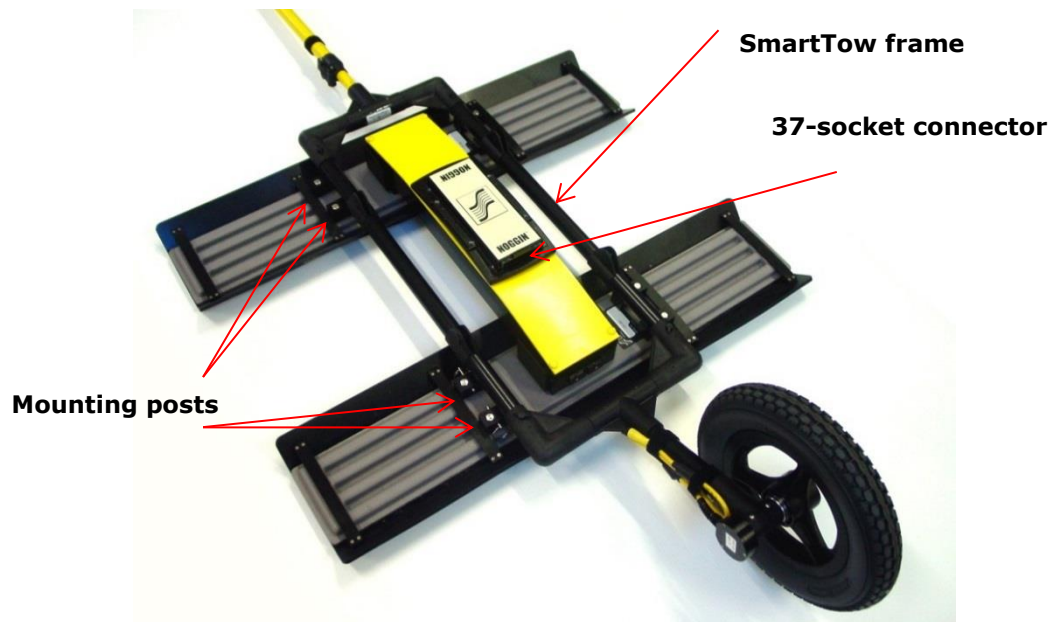

Figure 2-37: Attaching Noggin 100 electronics to antennas
5. Place the SmartTow frame over the Noggin 100 electronics. Ensure the end with the cable connector faces the odometer (Figure 2-37).